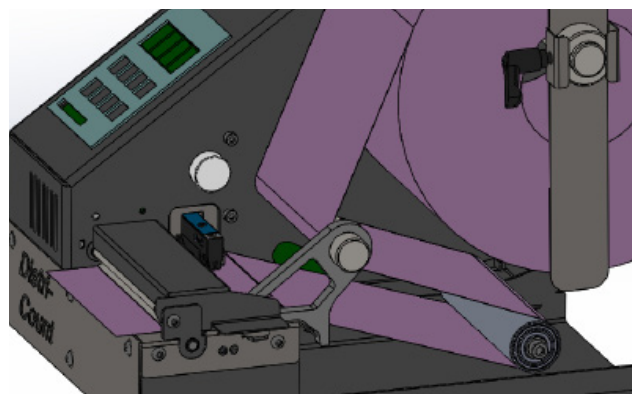

FIG. 4
- load the labels till they are circa 1 cm out the DISTRI-COUNT (FIG.4)
- close the mechanism cover again (FIG.4)
- adjust the sensor position (4) with the adjustment knob (5) so it is able to detect your labels and the label gap or a black-mark on the liner material
- the DISTRI-COUNT presents the first label precisely on the TEAR-OFF-BAR (8) and is now ready for use
- opening and closing from the mechanism cover (7) will initiate a new calibration process